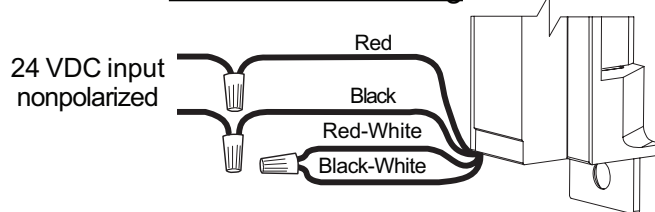

Figure 5
7. Wire strike solenoid for proper voltage (Figure 5). **Caution: Do not connect 24 VDC to 12 VDC configured strike.**